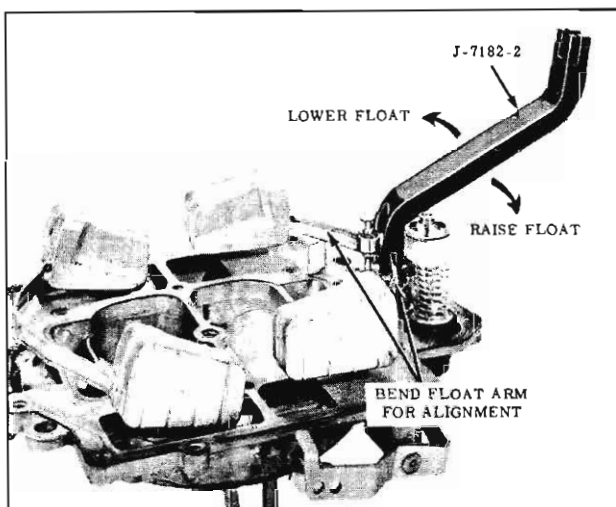

Fig. 4-18 Adjusting Float Level (Primary Shown)
3. If necessary to adjust, bend the float arm as indicated in Fig. 4-18.